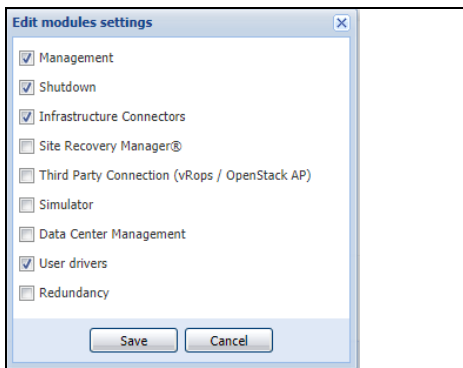

Figure 192. Enable Infrastructure Connectors Setting for Virtualization
2. Click **Edit modules settings** in the right panel. The Edit modules settings dialog box displays (see Figure 192).